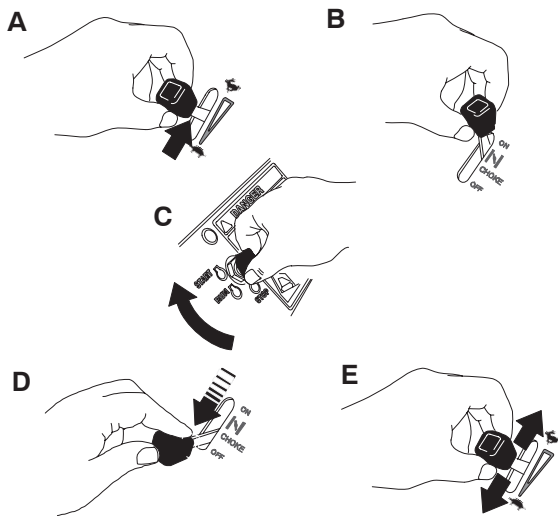

Figure 20
2. Move the throttle lever between the Fast and Slow positions (Fig 20, A).
3. Move the choke lever to the On position (Fig 20, B).
4. Turn the ignition key to the start position until the engine starts (Fig 20, C).
5. Gradually move the choke lever to the Off position (Fig 20, D). If the engine stalls or hesitates, engage the choke again until the engine warms up.
6. Adjust the throttle lever as desired (Fig 20, E).